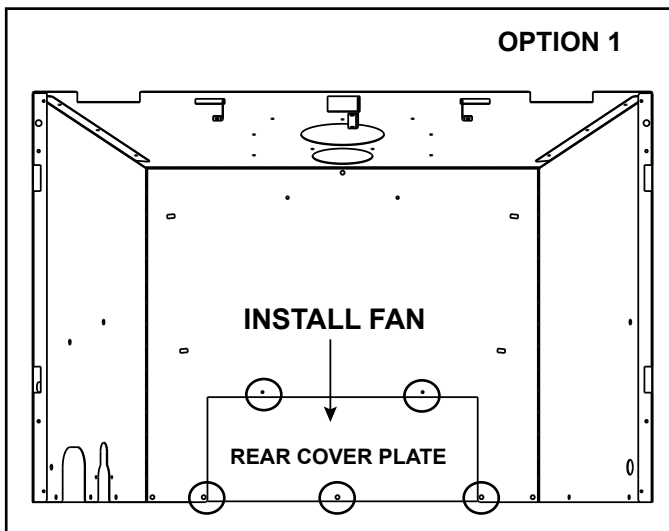

Figure 6.3 Cover Plate Removed (Option 1)
- Remove the five screws on the rear cover plate. See Figure 6.3.